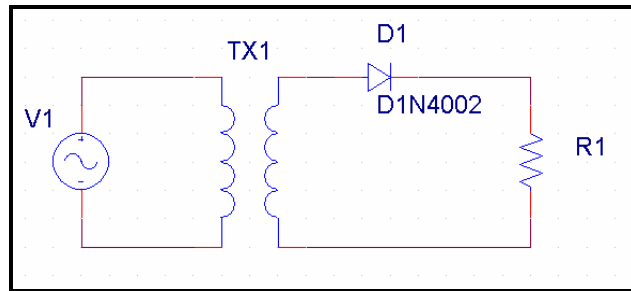

Fig 1.1 -- Half Wave Rectifier
- Use the transformer you have built in step 4 to construct the three different rectifying circuits in Figures 1.1, 1.2, & 1.3. For the circuits that use a 'non-center tapped' transformer, simply use the top-half of the secondary coil of your center-tapped transformer. Include the plots of the voltage across R1 in your prelab writeup. If you are unfamiliar with what each rectifier does, read sections 3.5 – 3.5.3 (in Sedra) to understand them further.
- Construct the rectifier circuit shown in Figure 1.1. Test the circuit for a possible short to ground with an ohm meter. Correct any wiring errors and test again. **Connect TX1** to an AC outlet. Measure and record the waveform across R1 using the oscilloscope, ensure to set the trigger level correctly. **Disconnect TX1** from the AC outlet! Plot and label the waveform Figure 1A -- Waveform across R1 in Half Wave Rectifier. Indicate and measure any relevant detail.